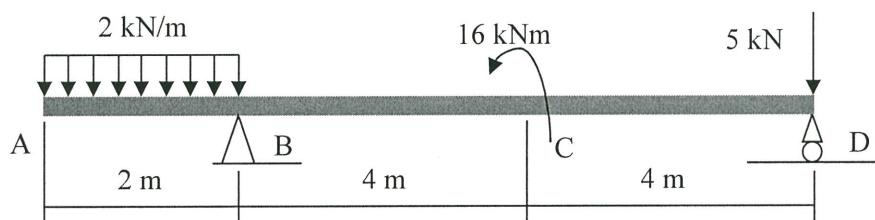

FIGURE Q3/ RAJAH S3
- Q3** A simply supported beam in **Figure Q3** are loaded with a uniform distributed load of 2 kN/m at its free end, an anticlockwise couple load of 16 kNm and a point load of 5 kN applied at point C and D respectively.